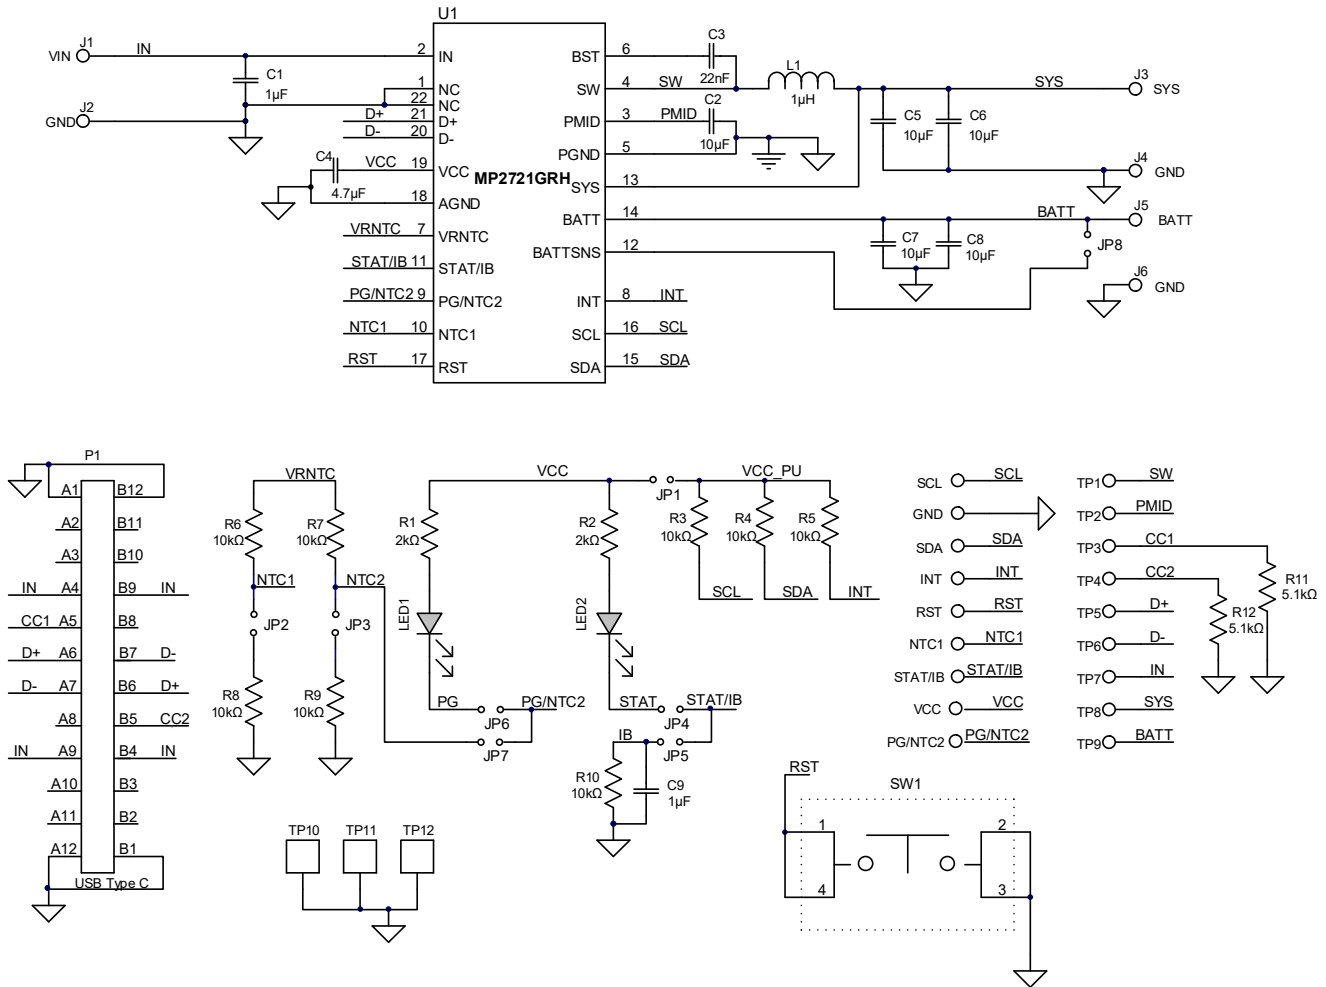

**Figure 3: MP2721 Evaluation Software**
7. Launch the MP2721 evaluation software. Figure 3 shows the GUI software’s main window.
1. Ensure that all the connections are successful, including the connection between the USB-to-I2C communication interface and the EV2721-RH-00A. Successful connections are indicated in green on the lower-left side of the GUI window (see Figure 3 on page 3). The program is ready to be run once all of the connections are successful.